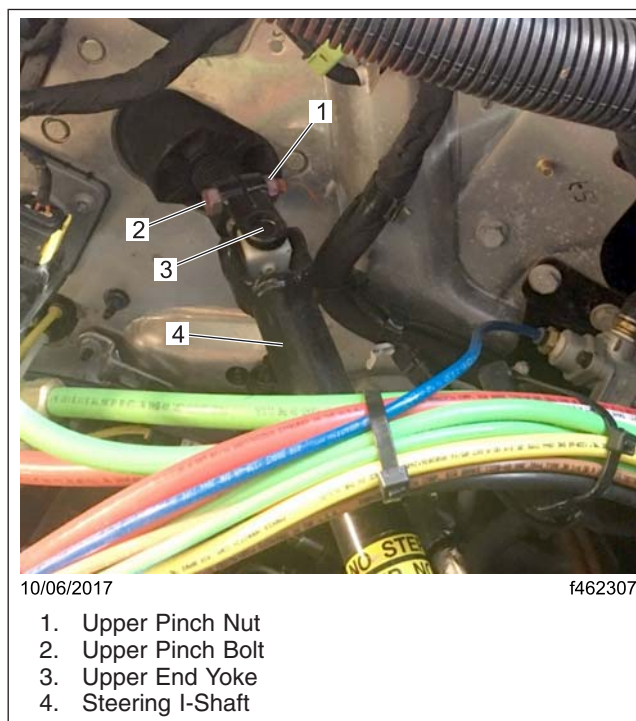

Fig. 1, Steering Shaft on the Engine-Side Frontwall
4. Inspect the pinch bolt to make sure that the torque seal is not broken. See Fig. 1. If the torque seal is **not** broken, go to step 7. If the torque seal is broken, or the bolt or nut is missing, continue with step 6.